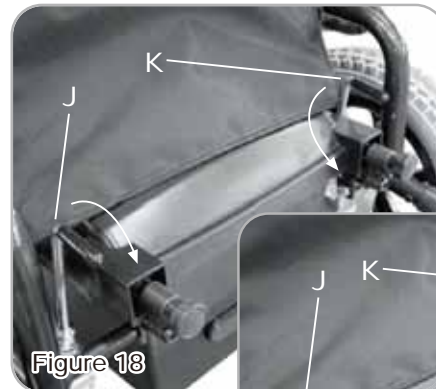

Figure 18
1. Turn the free wheel levers outward, to engage the drive motors. (See Fig. 18)